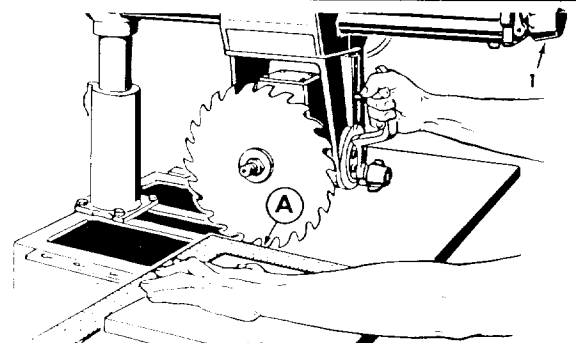
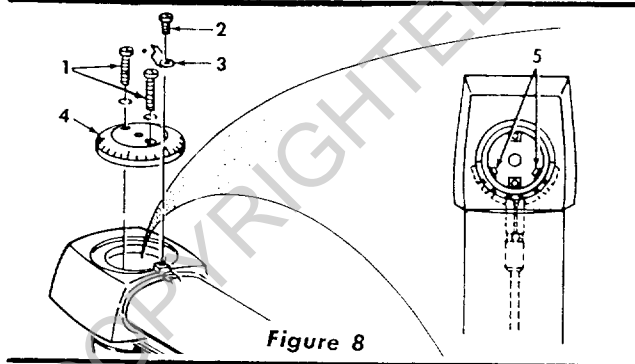

Figure 7
Figure 8
1. Set the radial arm at 0° index position and tighten the arm latch handle (1, figure 7).
2. Place a square on the table as shown in figure 7 and position the saw and square until the leg of the square just contacts a tooth of the saw blade. (Position "A", figure 7.) Mark this tooth with crayon or chalk.
- a. If saw tooth ("A", figure 7) moves away from the square when moving the blade from the rear toward the front of the table, tap the right-hand front edge of the table.
- Remove three screws (1 and 2, figure 8), indicator (3) and radial arm cap (4).
- Turn the arm latch handle (1, figure 7) one-half turn counterclockwise but do not pull it out.
- Loosen (do not remove) two hex-head screws (5, figure 8) located inside the column tube.
- Move the radial arm slightly in the proper direction to make saw tooth ("A", figure 7) follow edge of square when the saw blade is moved in and out in a "crosscut" manner.
- Retighten the hex head screws (5, figure 8) and arm latch handle (1, figure 7).
- After the cross cut travel has been accurately squared, install the radial arm cap (4, figure 8), indicator (3) and screws (1 and 2). Set the indicator (3) at 0° position.